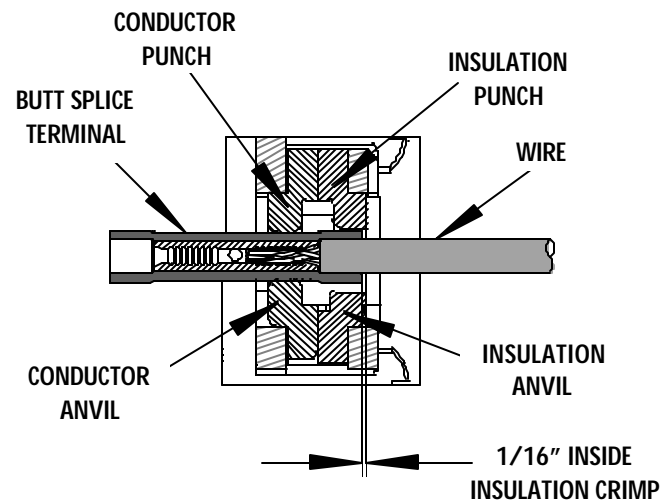

Figure 4
- When crimping butt splices, or 3-way and 4-way terminals the locator must be removed. Splices must be visually aligned with the tooling  $1/16$ " inside the insulation crimp (See Figure 4). The splice should be approximately centered inside the tooling nests (See Figure 4). Cycle the tool.